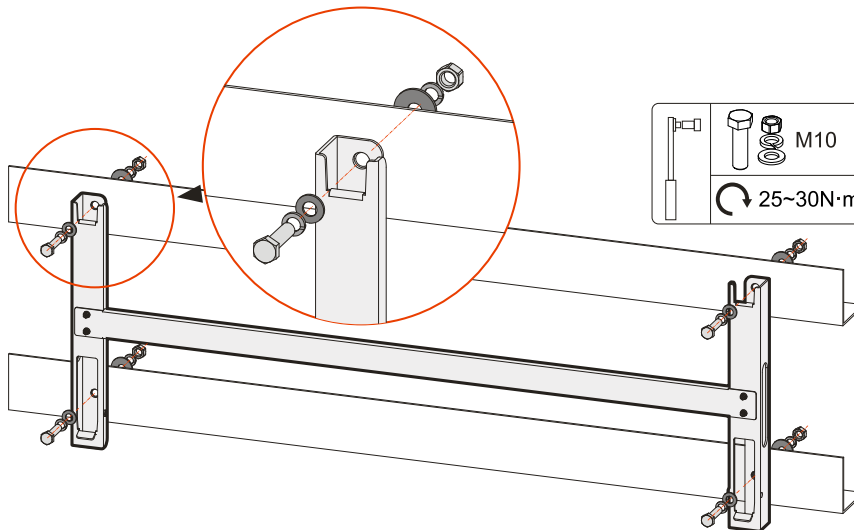

Figure3-15 Fix the wall mount on the bracket
- Step 4 Fix the wall mount to the bracket, use M10*40 bolts, put on flat washers, spring washers and nuts, and then tighten the nuts clockwise with a wrench to fix the wall mount to the bracket, as shown in Figure3-15.